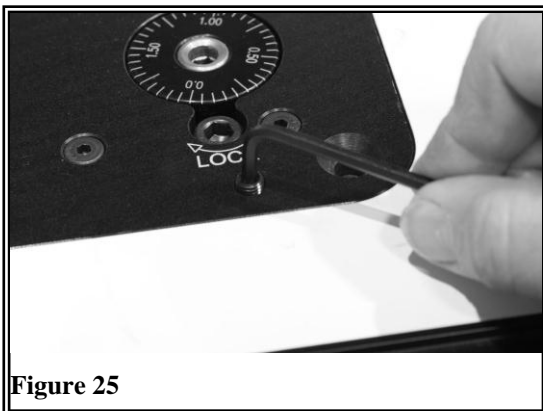

Figure 25
With the Rout-R-Lift Prestige in the table top opening, install (10) set screws into the holes around the lift perimeter. Adjust (Figure 25) the four corners first to align the lift surface to the table surface so that both are flush. Adjust the remaining set of screws on the sides to provide added support.